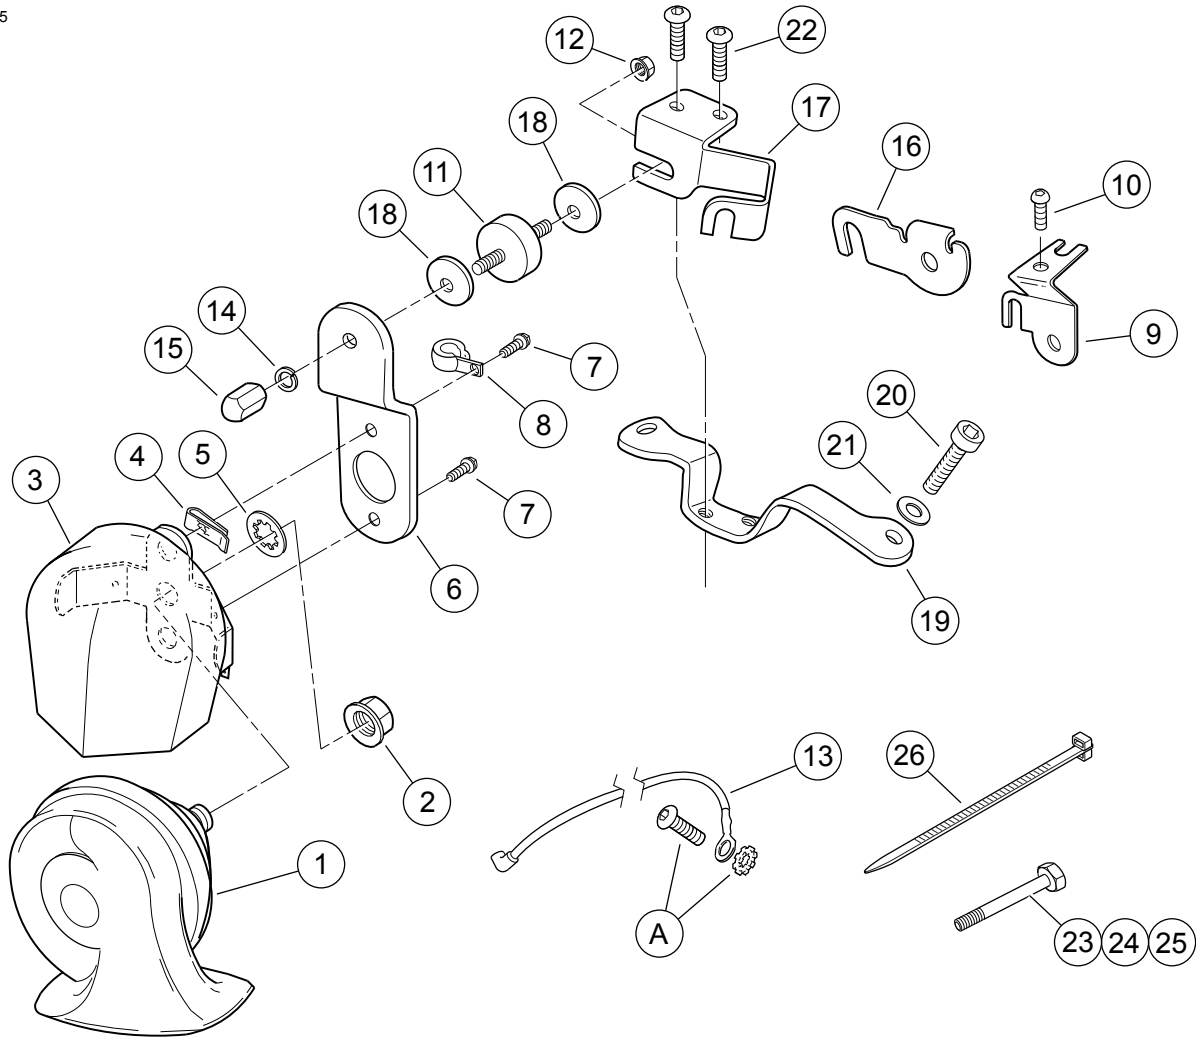

Figure 10. Service Parts, Chrome Horn Kit
6. Remove and discard the enrichener mounting bracket. Save the two button head screws (3).
7. See Figure 10 and Table 1. Obtain the following items from the kit:
1. Cut the cable strap securing the horn wire lead(s) to the frame. Remove the horn wire(s) from the wire bundle. Secure the remaining wires to the frame with a new cable strap (26) from the kit.
4. Obtain the 5/16-18 x 4-1/4 in. hex head cap screw (25) from the kit. Install the fuel tank to the vehicle, using the **new** screw and the remaining hardware removed earlier. Refer to FUEL TANK, INSTALLATION in the Service Manual. Tighten the fuel tank front mounting screw to 10.8–21.6 N·m (96–192 **in-lbs**)
5. See Figure 10 and Table 1. Obtain the following items from the kit: